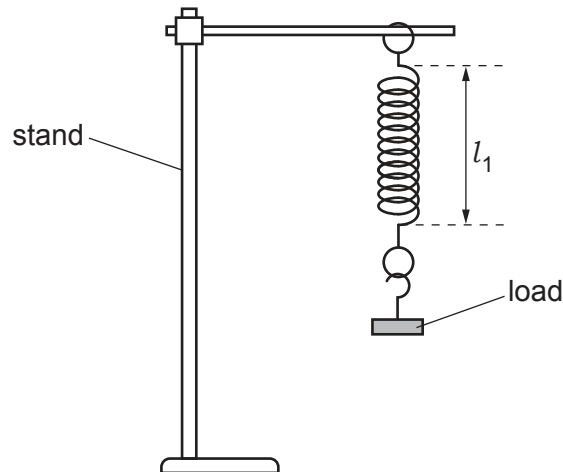

Fig. 3.2 (not to scale)
- (b) A student hangs the spring from a clamp attached to a stand and attaches a load of 1 N as shown in Fig. 3.2.